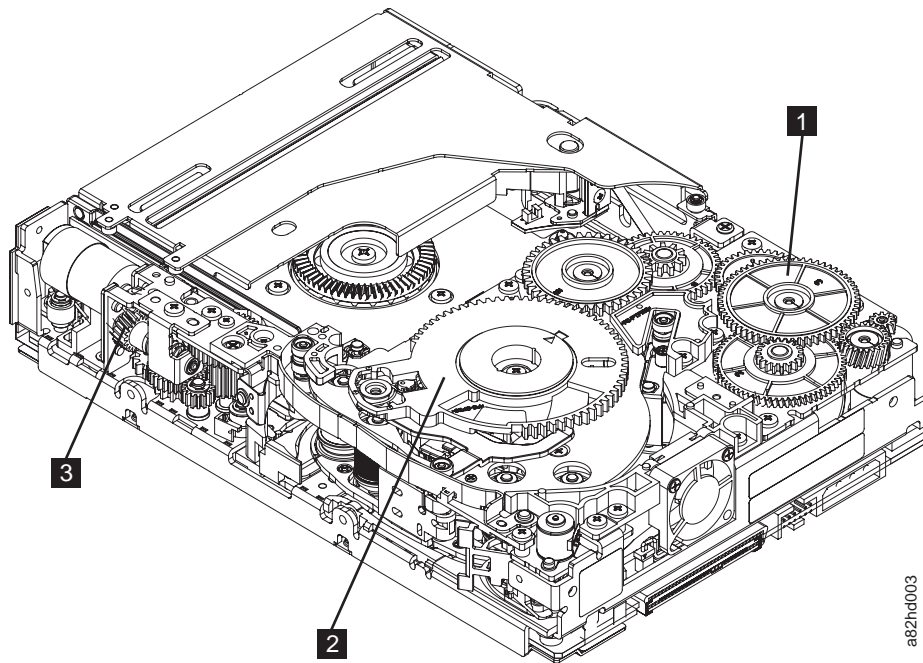
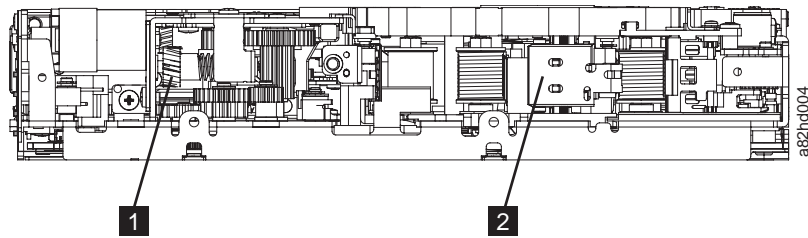

Figure 174. Drive with cover removed to reveal gear train
Figure 175. Leader Block Assembly (LBA)
4. Locate the threader intermediate gear (**1** in Figure 174) near the rear of the drive. You can use your finger to rotate the threader intermediate gear (**1** in Figure 174) and slowly rotate the threader mechanism gear (**2** in Figure 174) clockwise. This procedure draws the tape leader block assembly (LBA) into the cartridge.
5. As the leader pin is secured in the cartridge, the leader pin retention spring clips click into place. If you do not hear the click, continue rolling until the threader intermediate gear (**1** in Figure 174) stops. The LBA is in the correct position.
6. Rotate the loader motor worm gear (**3** in Figure 174 and **1** in Figure 175 on page 181) clockwise as viewed from the front of the drive until it stops. This procedure releases the LBA leader pin.
7. Rotate the threader intermediate gear (**1** in Figure 174) counterclockwise until the leader block is in front of the read/write head. This procedure moves the LBA out of the cartridge.
8. Rotate the loader motor worm gear (**3** in Figure 174 on page 180) counterclockwise as viewed from the front of the drive until it stops.